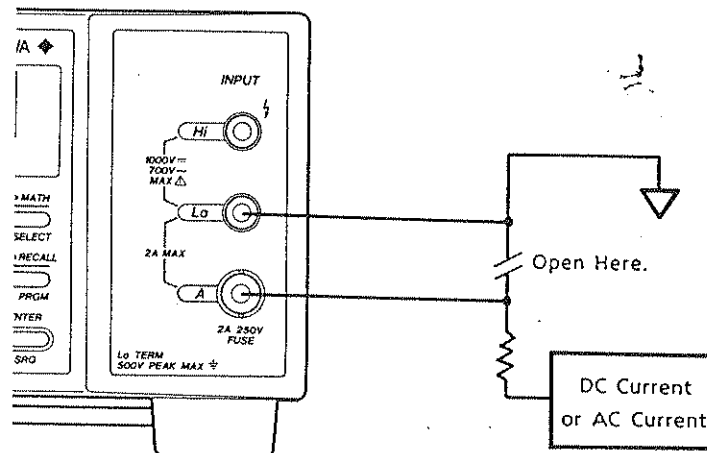

Figure 4.5 DC A Measurement
- (1) Connect the leadwire to the current input terminals A and "Lo" (current flows A to Lo, see Figure 4.5).